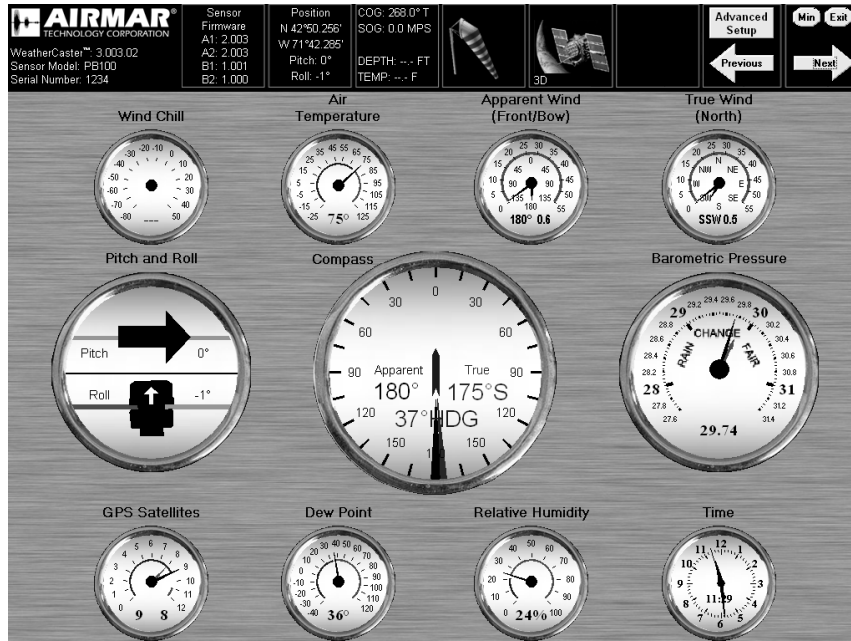

Figure 25. Analog Gauge Screen
- **Analog Gauge Screen**—This screen displays the data being sent from the sensor(s) on gauges in both analog and digital formats (see Figure 25).
Gauges display the data being sent from the sensor(s) (see Figure 25). Each gauge displays data in both analog and digital formats.